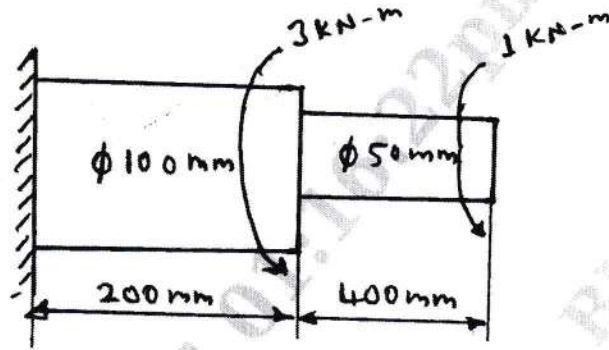

Fig Q6(b)
- b. A solid stepped bar of circular cross section as shown in Fig Q6(b), is subjected to a torque of 1kN-m at its free end and a torque of 3kN-m at its change in C/S. Determine the angle of twist in the bar. Take $E = 2 \times 10^5 \text{ MPa}$, $G = 7 \times 10^4 \text{ MPa}$.